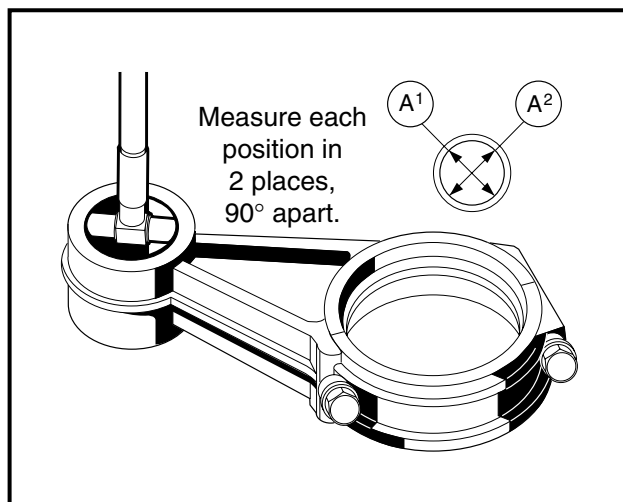

Figure 13-56 Measure Connecting Rod Small Bore I.D.
2. Using a telescoping gauge, measure the inside diameter of the connecting rod small bore at several points along its length (**Figure 13-56, Page 13-29**).